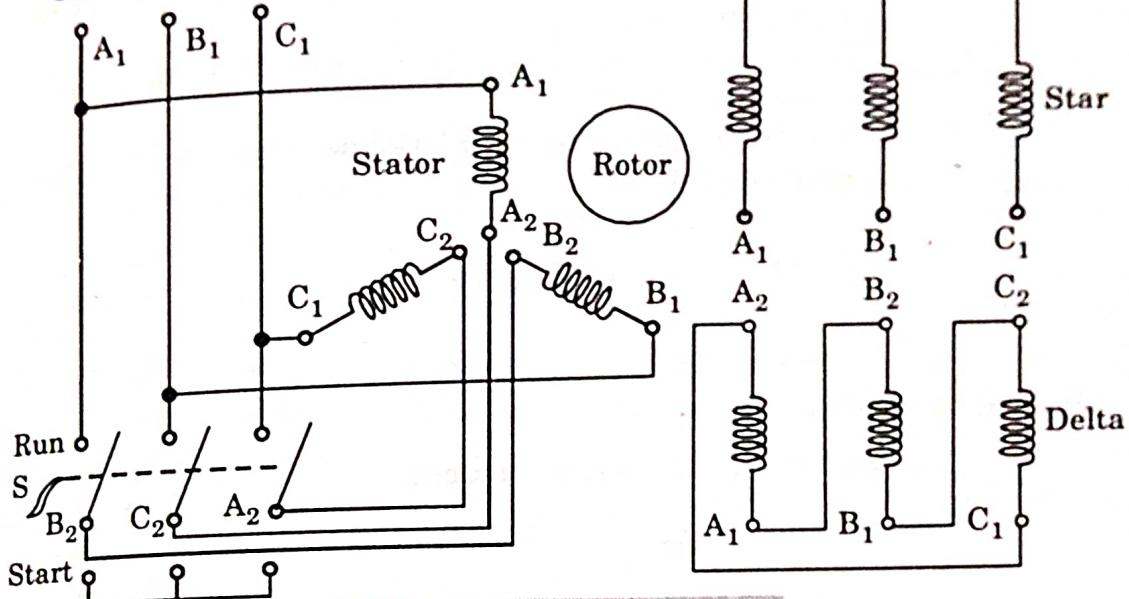

Fig. 4.1.1. Star-delta starter.
1. Fig. 4.1.1 shows the connection of a three-phase induction motor with a star-delta starter.